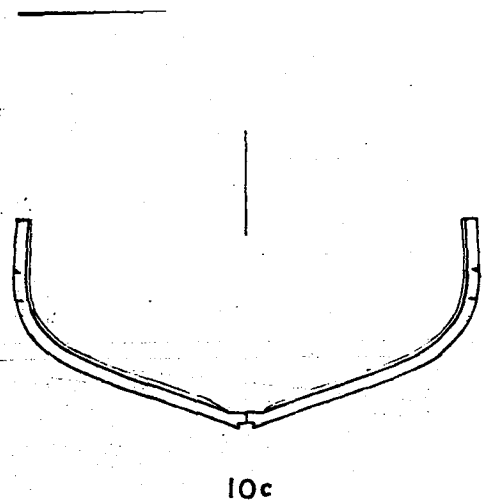

Fig. 5
5. Figure 5: Add inner (inside) frame section lines to drawing. See Lloyd's scantlings for moulded dimensions. Frame sided and moulded dimensions in the floor timbers are usually about equal. Frames generally taper from floors to tops; top timbers about one half floor moulded dimensions. If you are working on an earlier ship (17th and 18th centuries) and have doubts, check scantlings in 1804 Steel's Architecture.